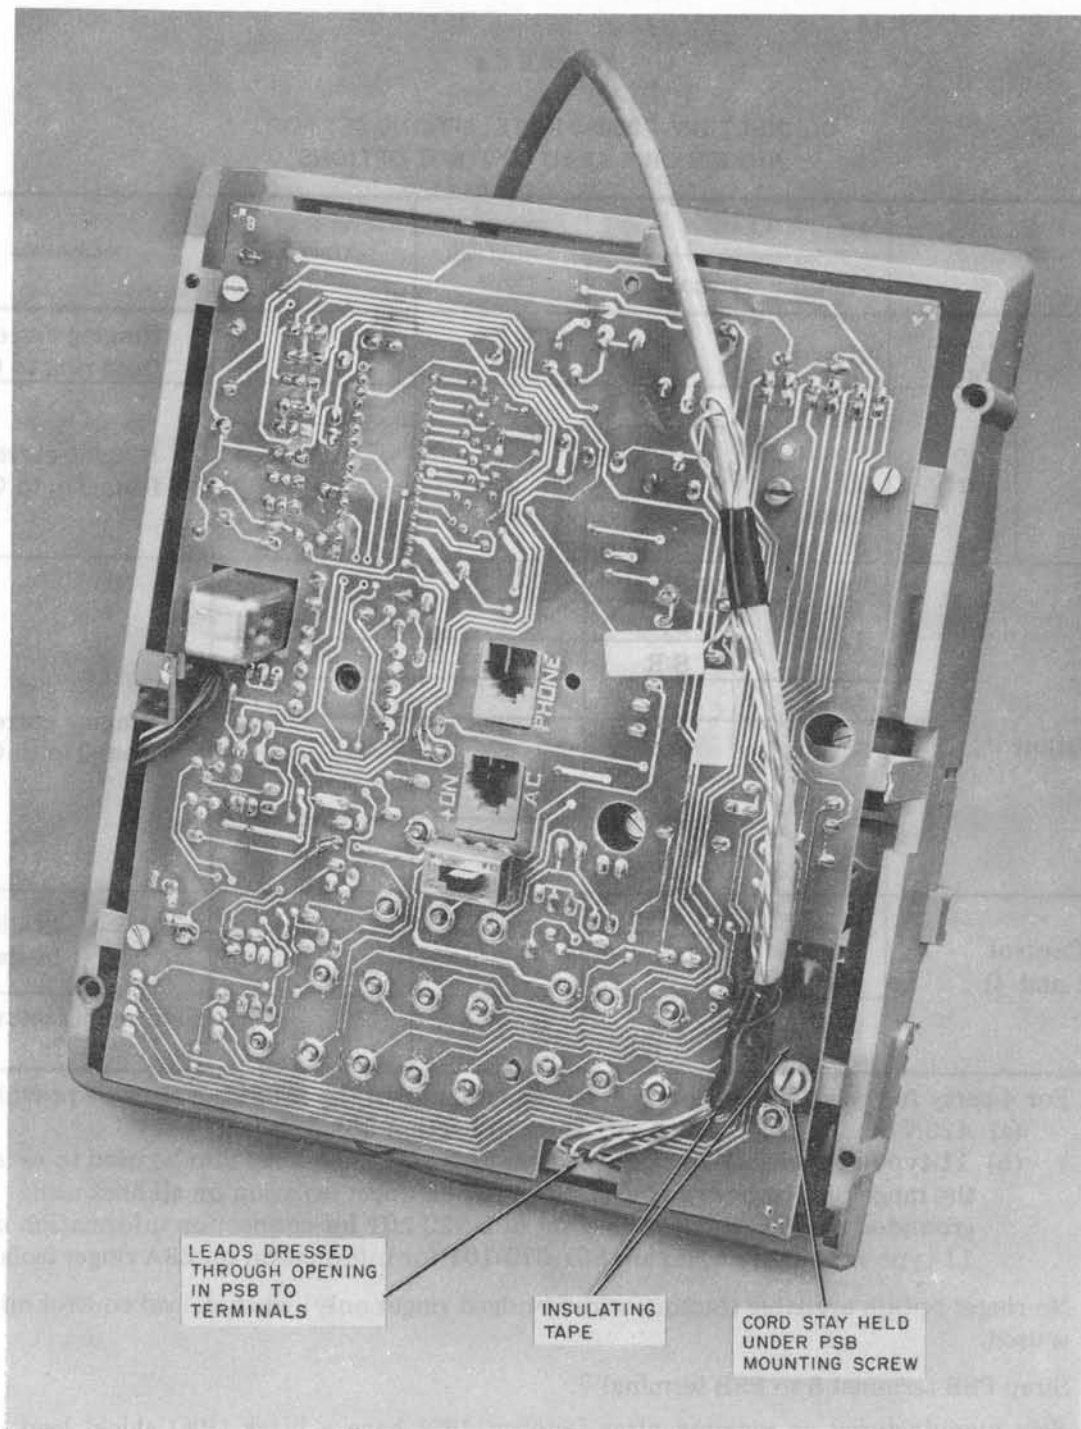

Fig. 14—Bottom of Set With Lower Housing Removed Showing an Adjunct Cord Dressed Across Power Supply Board (PSB)
used to fasten the power supply board to the bottom of the chassis (Fig. 14). Proper precautions must be taken so that the stay band and hooks do not short any circuit paths. Insulating tape should be placed around the cord and stay band and also applied to the power supply board under the cord (Fig. 14).
8.03 A rectangular cutout at the right front edge of the power supply board provides access for dressing individual spade-tipped leads to the appropriate screw terminals on the power supply circuit board (Fig. 14).
2.03 A rectangular cutout at the right front edge of the lower supply board provides access for inserting insulated spade-tipped leads in the appropriate screw terminals on the power supply circuit board (Fig. 14).